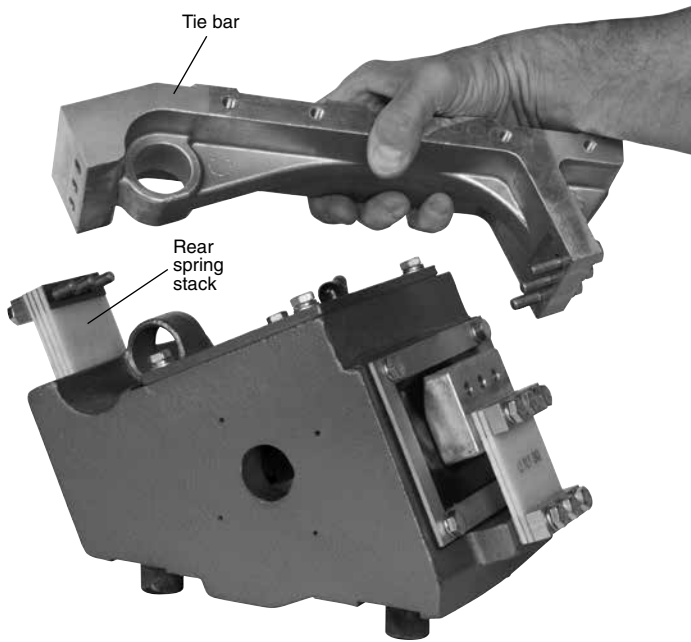

FIGURE 6
2. Remove, in order, the bolts securing the upper end of the rear tuning spring stack to the tiebar. Lift the tray-tiebar-lever assembly away from the body housing (see Figure 6).